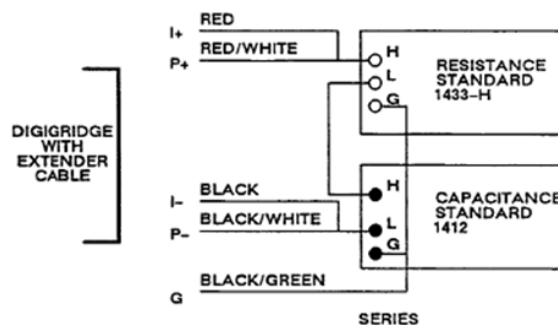

Figure 5-13: Series connections of standards for D accuracy checks
6. Using the extender cable and plain bus wire, connect the decade Rand C standards in series, as DUT to the Digibridge, as shown in Figure 5-13 and tabulated below.